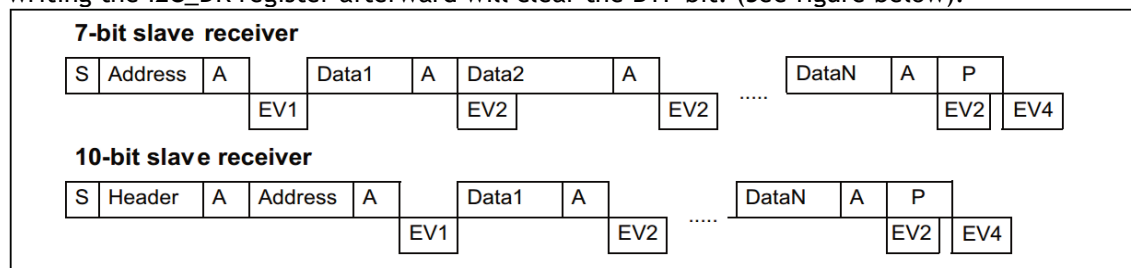
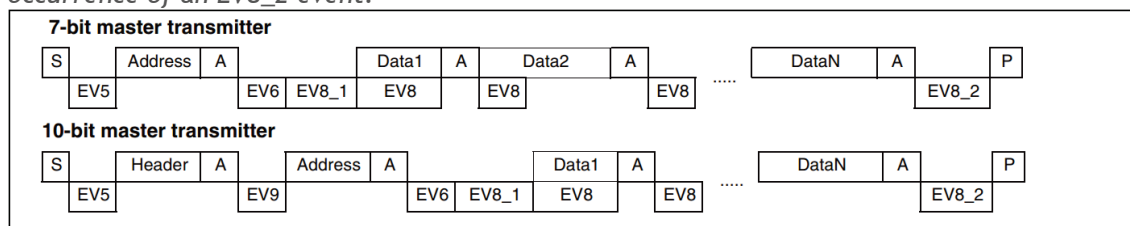
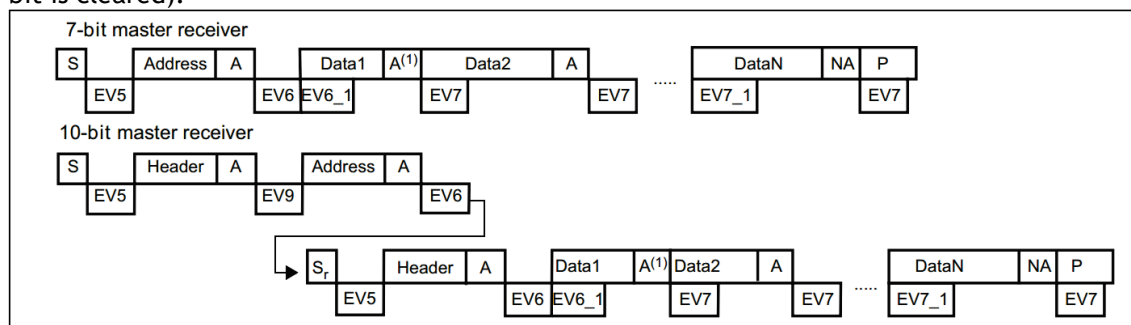

Figure244 Transmission Sequence Diagram from Receiver
Figure 245 Master Transmitter Transmission Sequence Diagram
Figure 246 Master Receiver Transmission Sequence Diagram
- The master device then waits to read the SR1 register, followed immediately by writing the slave address to the DR register (see EV5 of Figure 244 and Figure 245).
- The master device then waits to read the SR1 register before writing the second address byte to the DR register (see Figure 245 and Figure 246).
The master device then waits for one read of the SR1 register, followed by a read of the SR2 register (see Figure 245 and Figure 246).
The master device waits until TxE is cleared, (see EV8 of Figure 245). When an answer pulse is received.
After writing the last byte in the DR register, a stop condition is generated by setting the STOP bit (see EV8\_2 of Figure 245), and then the I2C interface will automatically return to slave mode (M/S bit clear).
- Hardware sets RxNE=1 and generates an interrupt if the INEVFEN and ITBUFEN bits are set (see Figure 246 EV7 of the bookmark 2040).